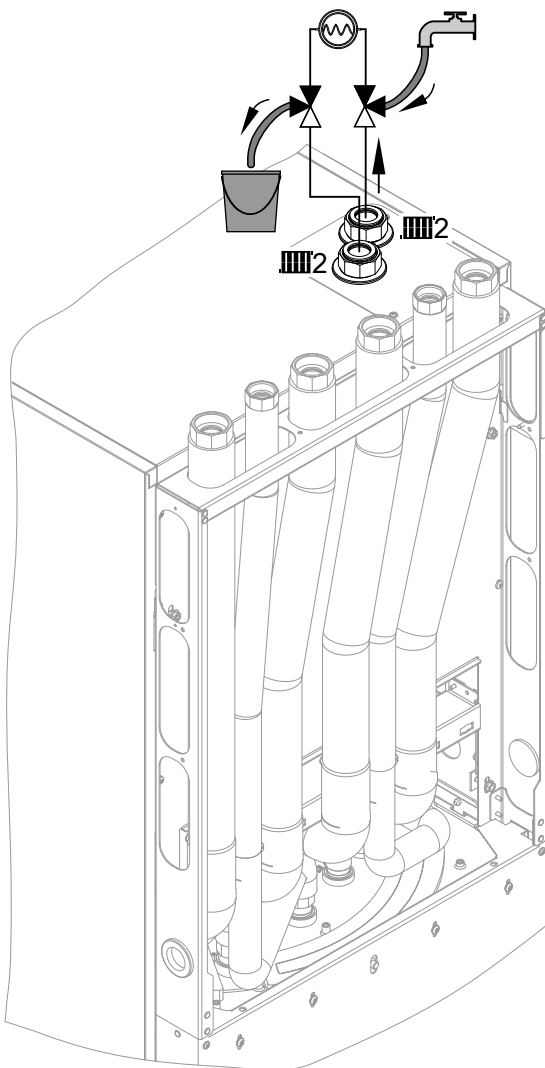

Fig. 74
4. Open the 3-way ball valves in the heating/cooling circuit 2 flow and return as shown in Fig. 74. Allow the heating water to flow in via the fill hose.